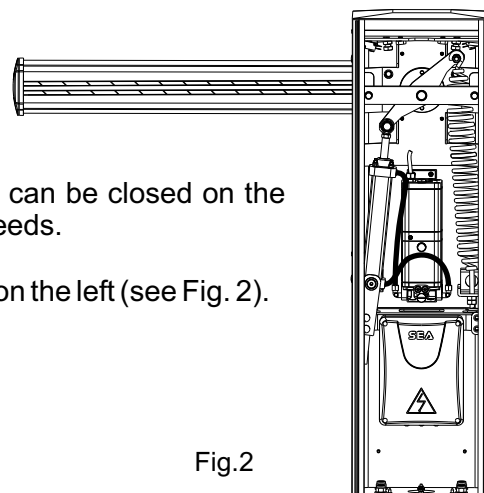

Fig.2
e.g. if the spring is on the right-hand side, the guard closes on the left (see Fig. 2).
Barrier with left hand closing (Fig. 2)